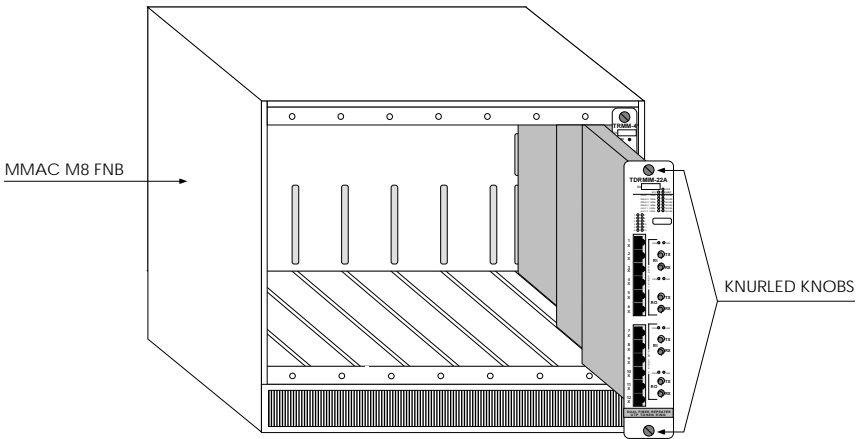

Figure 3-1. Installing the TDRMIM into the MMAC
1. Remove the coverplate from the selected MMAC slot and slide the TDRMIM into the MMAC chassis (see Figure 3-1). Be sure that the card is in the card guides at the top and bottom of the chassis.